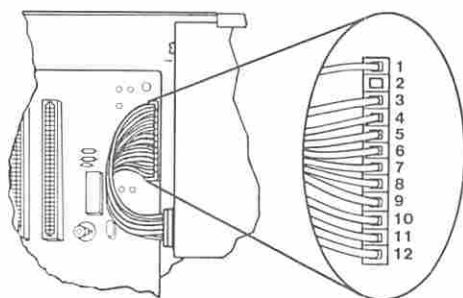

Figure 1. System Board Power Connectors
- Check for a voltage of -10.8 to -12.9 Vdc between pins 4 and 8 (ground) at the system board power connector, Figure 1.